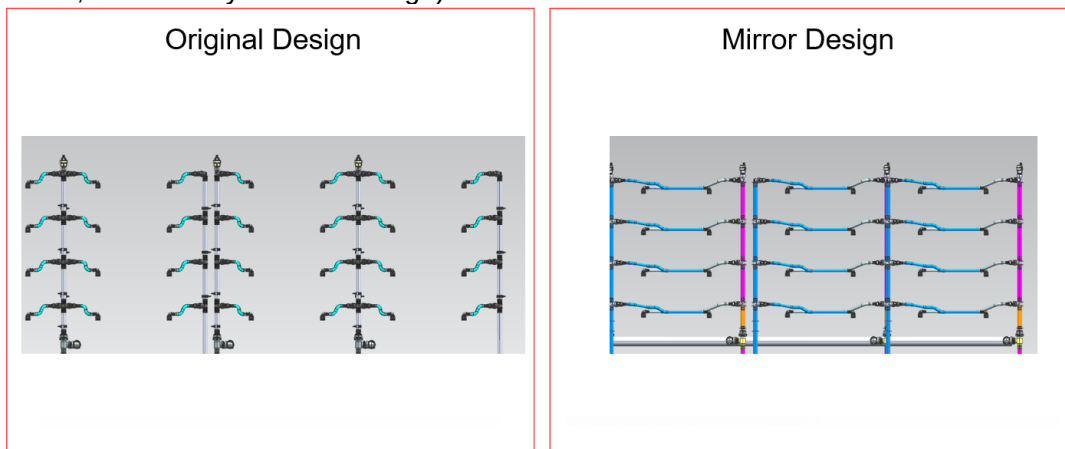

Figure 14 –The liquid cooling piping mirror design
②Liquid cooling piping mirror design (shown as figure 14) (product materials, key device, performance, functionality without change)